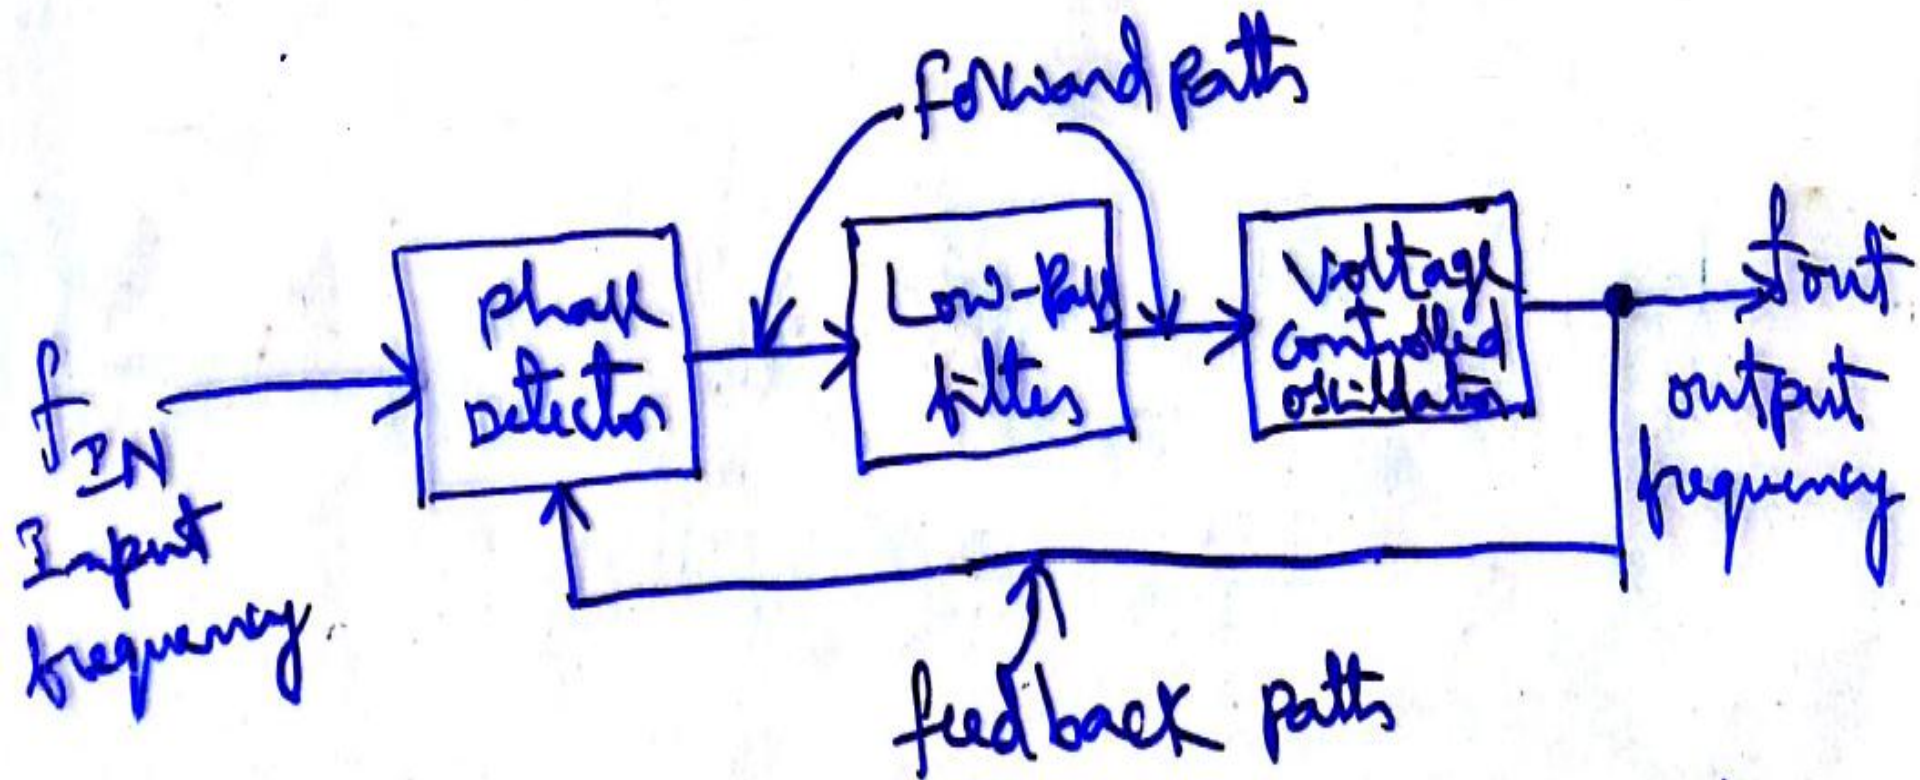

Fig 10-25 Block diagram of a phase-locked loop.
- Figure 10.25 shows the phase-Locked loop (PLL) in its basic form.
- The second block shown in the PLL block diagram of figure 10.25 is a low-pass filter.